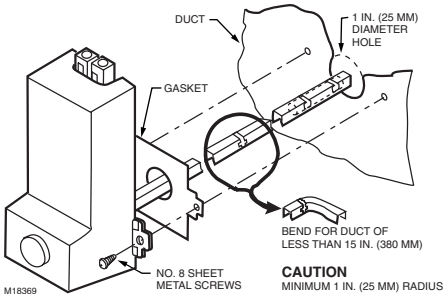

Fig. 4. LP920 integral bulb model.
1. Drill, saw or punch 1 in. (25mm) diameter hole for the sensing element. See Fig. 4.